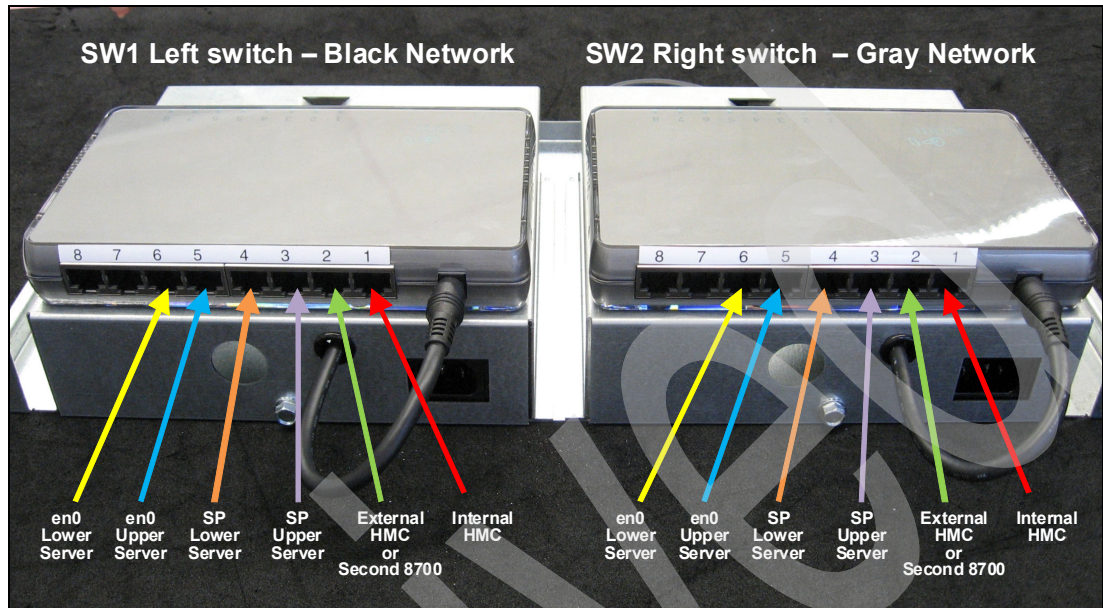

Figure 9-2 Rear view of DS8700 Ethernet switches
The HMC is connected to the storage facility by way of redundant private Ethernet networks. Figure 9-2 shows the pair of Ethernet switches internal to the DS8700.
**Important:** The internal Ethernet switches pictured in Figure 9-2 are for the DS8700 private network only. No customer network connection should ever be made to the internal switches. Customer networks are connected to the HMC(s) directly.